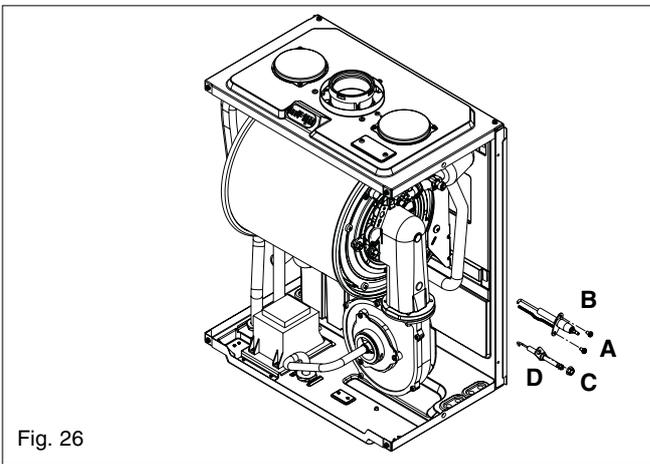

Fig. 26
6.13 ELECTRODE & CONDENSE SENSOR (fig. 26)